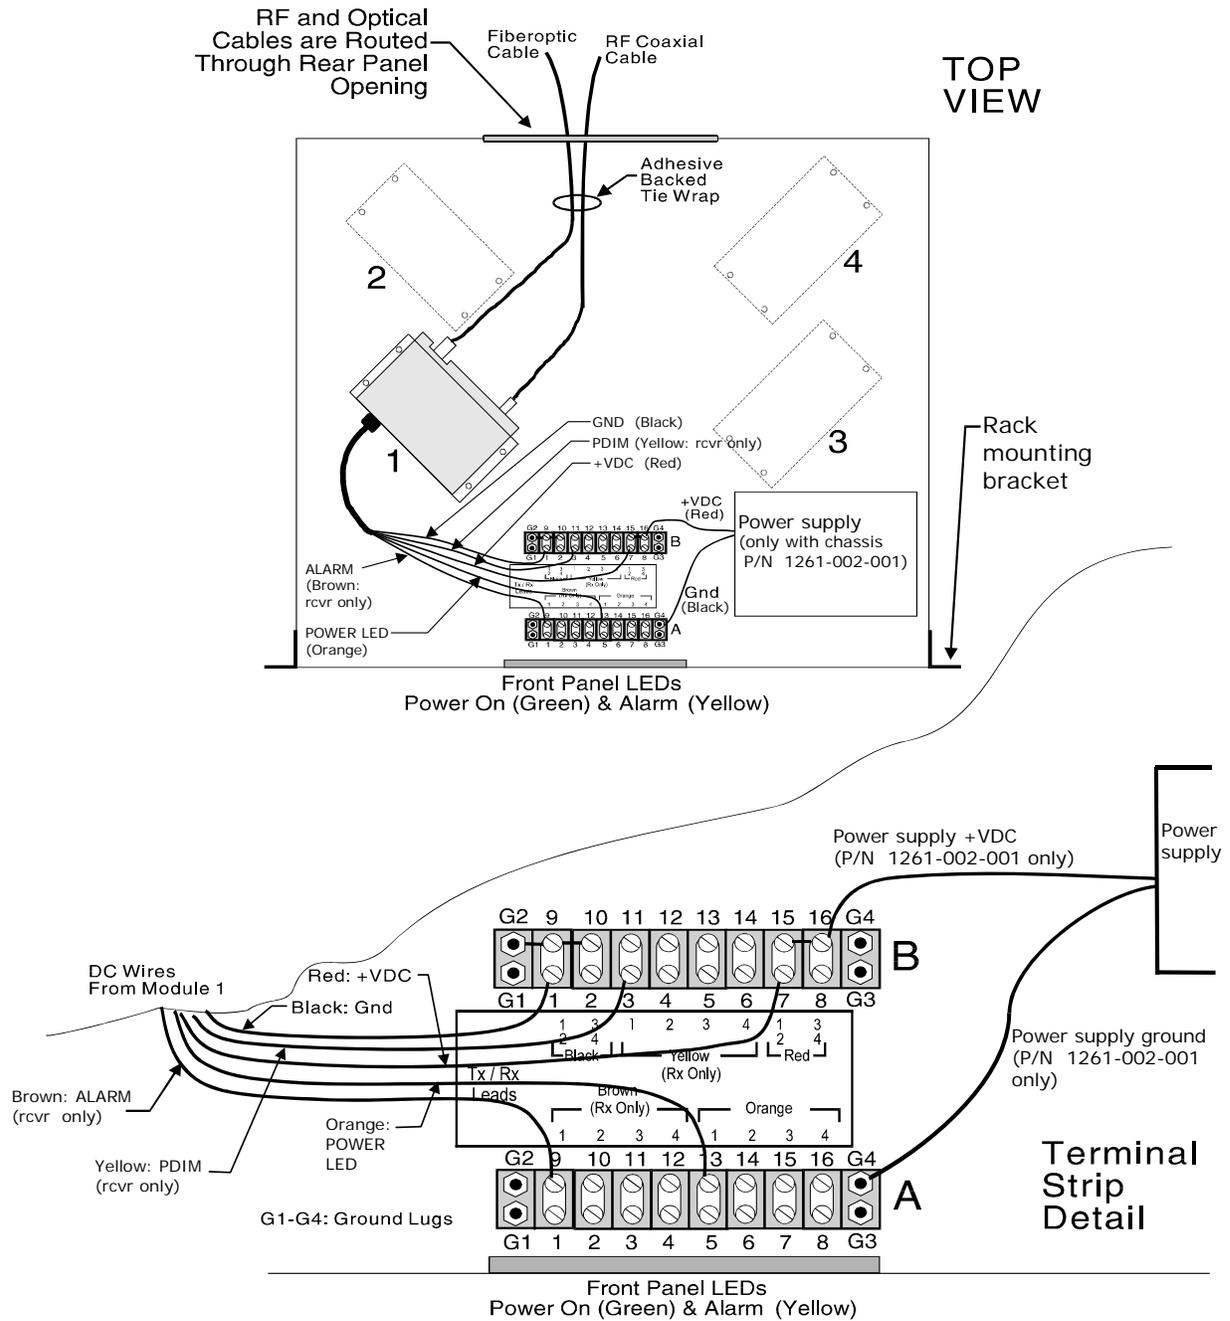

Figure 5-2 Installing flange-mount units in the 1U chassis.
2. The DC connections are made to the terminal blocks as shown in Figure 5-2. Refer to Table 5-1 for a list of all the connections to be made.